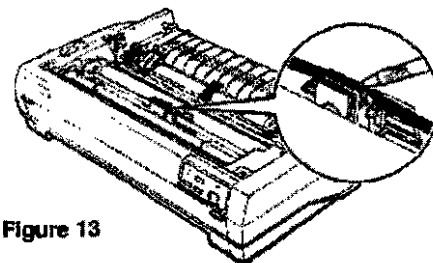

Figure 13
6. Use a pointed object, such as a ball point pen, to guide the ribbon between the print head and ribbon guide while you turn the ribbon-tightening knob to help feed the ribbon into place (Figure 13).